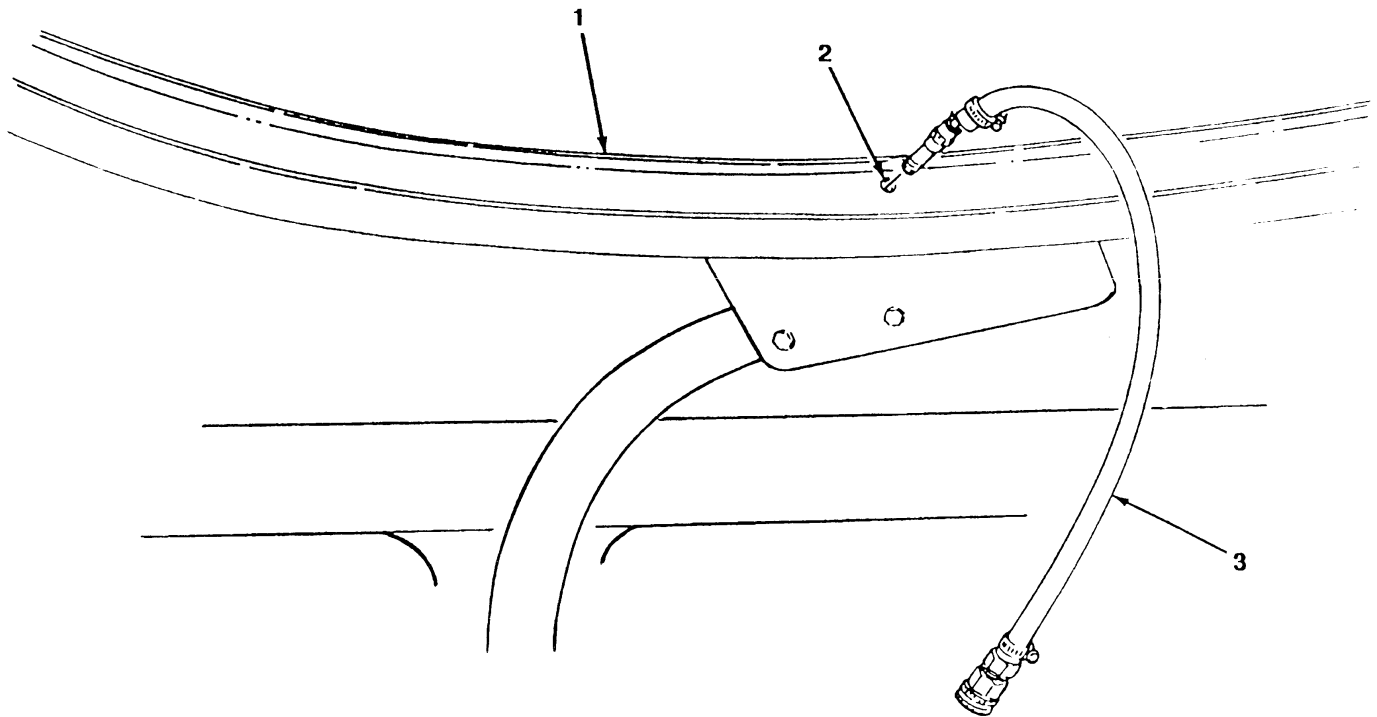

FIGURE 3-18
1. Insert hose assembly (3) in hole (2) on inner bearing (1). (see figure 3-18)